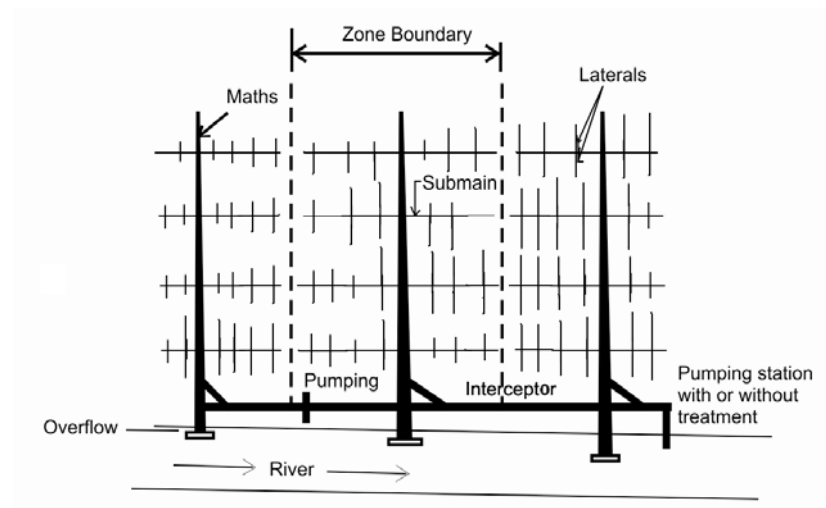

Figure 2.2 Interceptor pattern of collection system
- Sewers are intercepted with large size sewers (Figure 2.2).